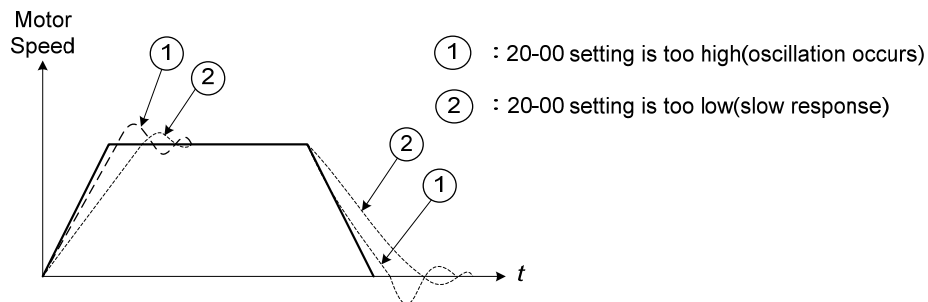

Figure 4.3.113 System response of ASR proportion gain
- . Integral control enables the motor speed reaches the target speed as soon as possible, but it may result in overshoot or less, as shown in Figure 4.3.113 & 4.3.114.